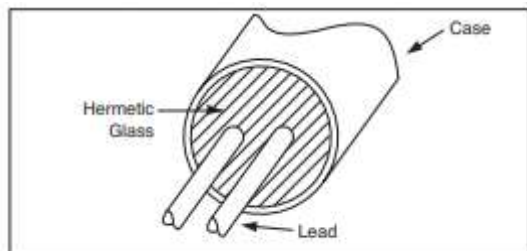

Figure 1
- Structure – Cylinder crystals are hermetically sealed using glass to metal seals (see figs 1 and 2)